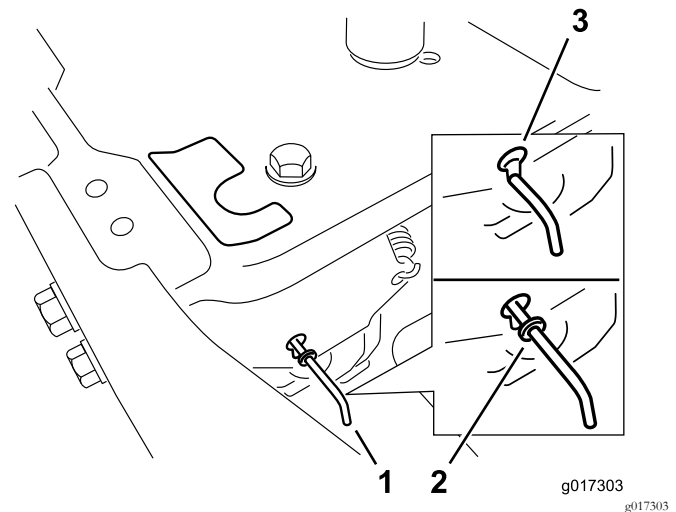

Figure 20
4. Move the bypass levers forward through the key hole and down to lock them in place (Figure 20).
Move the bypass levers rearward through the keyhole and down to lock them in place as shown in Figure 20.